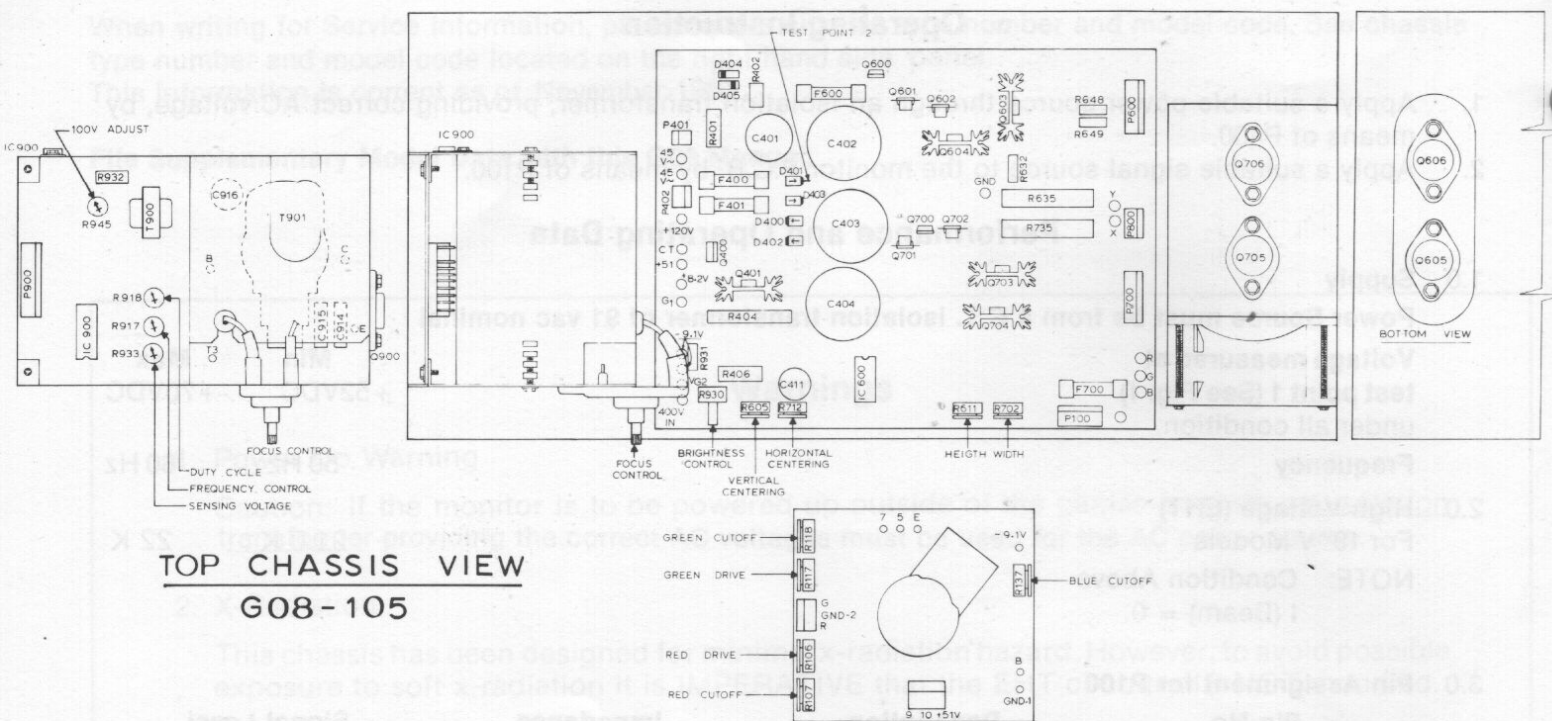

Figure 1
Voltage measured at test point 1 (See Fig. 1) under all condition.
- 1.5 Turn off the red and blue fields on the generator and adjust the G2 control (figure 1) to produce a green field.
3.2 Set red and green drive controls to their mechanical center and turn the common G2 screen control and 3 cut-off controls to minimum (fully counterclockwise). Refer to figure 1 for control locations.
4.1 Refer to figure 1 for location of the vertical and horizontal size and centering controls (4 controls).